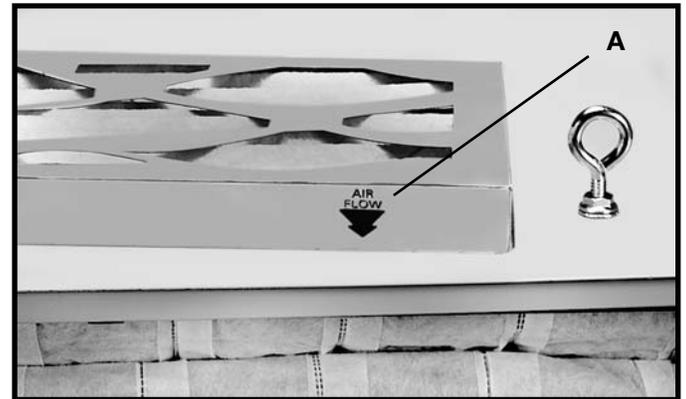

Fig. 10
5. Reinstall the filters by placing the top of the filter in first and lifting on the bottom to get it into position. **NOTE: The air flow arrow on the outer filter must point inward toward the rear of the air cleaner. Location of the air flow arrow is shown at fig. 10.**